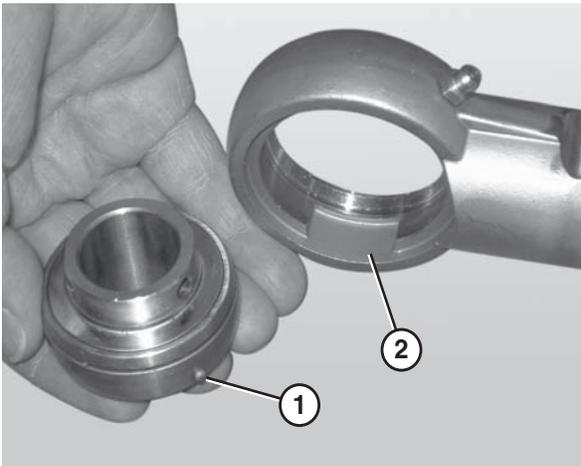

Figure 86
4. Remove the worn or damaged bearing (**Figure 86**).
*When inserting the new bearing, make sure the anti-rotation notch (**Figure 86, item 1**) on the bearing lines up with the groove inside the housing (**Figure 86, item 2**).*